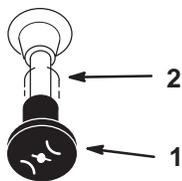

Figure 15
- After the engine starts, move the choke to **off** (Fig. 15). If the engine stalls or hesitates, move the choke back to **on** for a few seconds. Then move the throttle lever to desired setting. Repeat this as required.